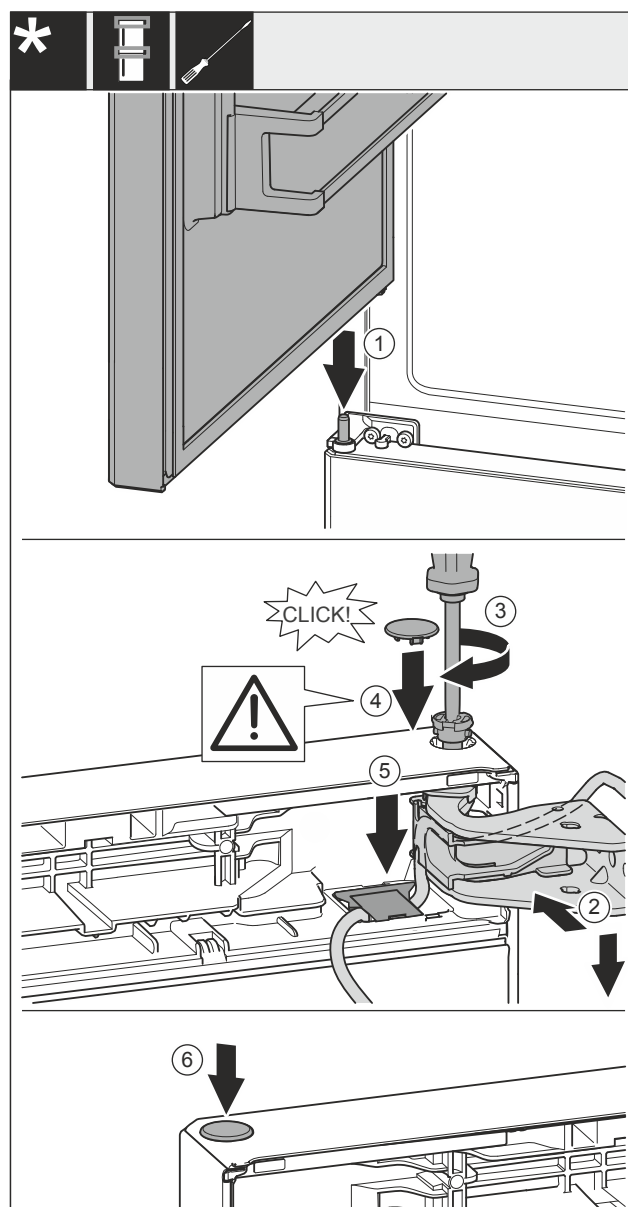

Fig. 46
- ▶ Position to top door onto the center bearing pin Fig. 46 (1).
- ▶ Align the door on the top towards the opening in the swap bearing block Fig. 46 (2).
- ▶ Insert the pin Fig. 46 (3) and tighten it with the screwdriver.
- ▶ Insert the cover Fig. 46 (4).
- ▶ Check to be sure that the cover Fig. 46 (4) is positioned on the door.
- ▶ Insert the cover Fig. 46 (5) and press it down until it snaps down.
- ▶ Insert the cover Fig. 46 (6).